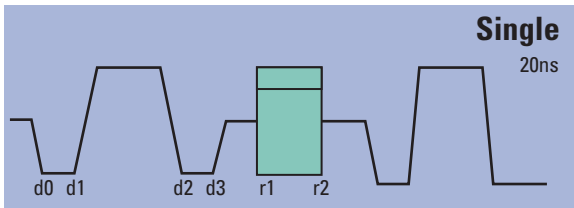

Figure 5-30: Single mode
The single mode (refer to Figure 5-30) operates at up to 50 MHz, with up to 256 Tsets and 32 Edgesets. Full SCAN, MTO, and DSSC operation, and single cycle I/O are supported. Vector depth is 64 Meg, with 3-bits per pin/vector. Six (6) edges — D0, D1, D2, D3, R1 and R2 — are available.